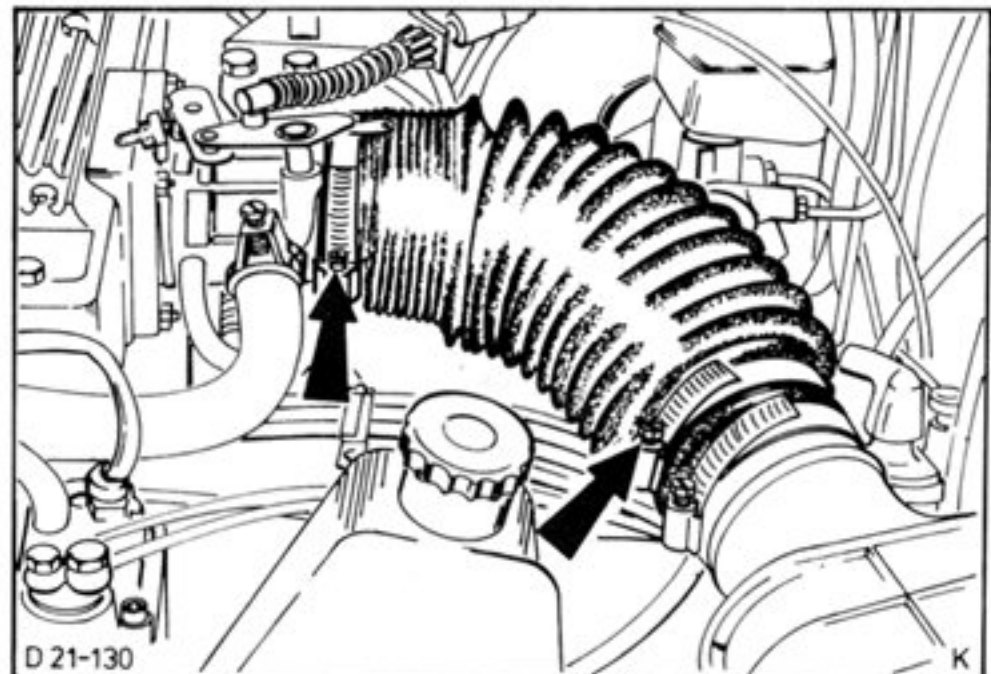

Fig.111. Connecting hose of inlet silencer in installation position.
12. Fix overflow tank, install connecting hose of inlet silencer (note installation position in Fig.111.) and connect battery earth cable.